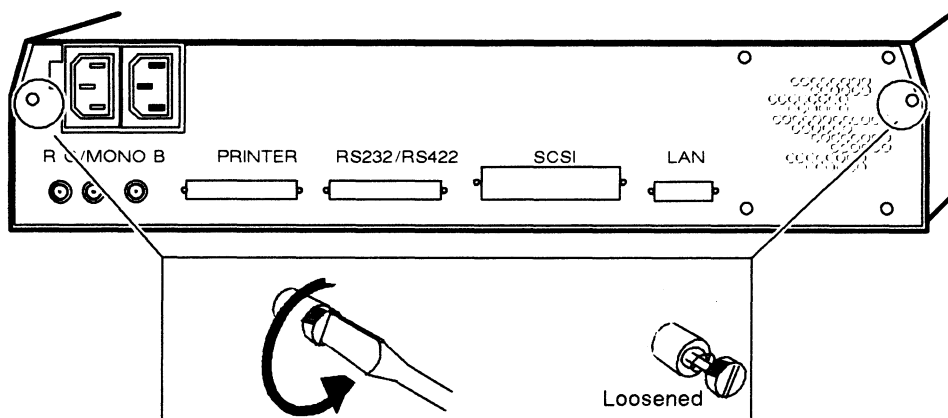

Figure 2-1 Loosening Two Screws That Attach the Tray Assembly to the Housing
2. Loosen the two screws on the back panel as shown in Figure 2-1.